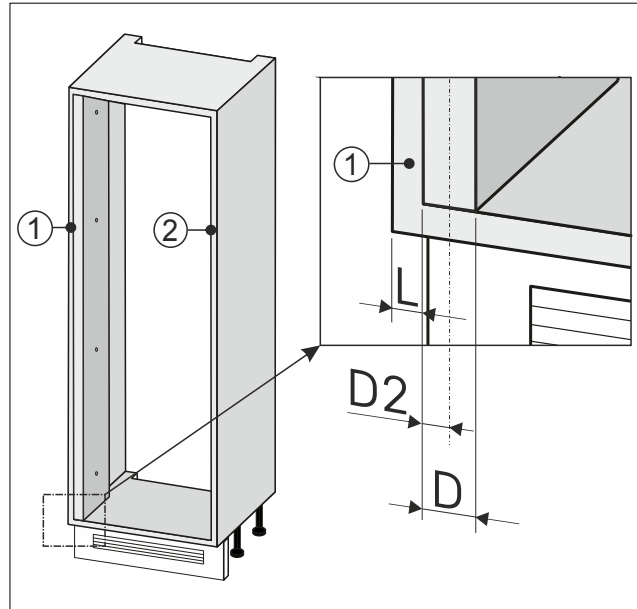

Fig. 94
- Note down the half width Fig. 94 (D2) of the wall levelling.